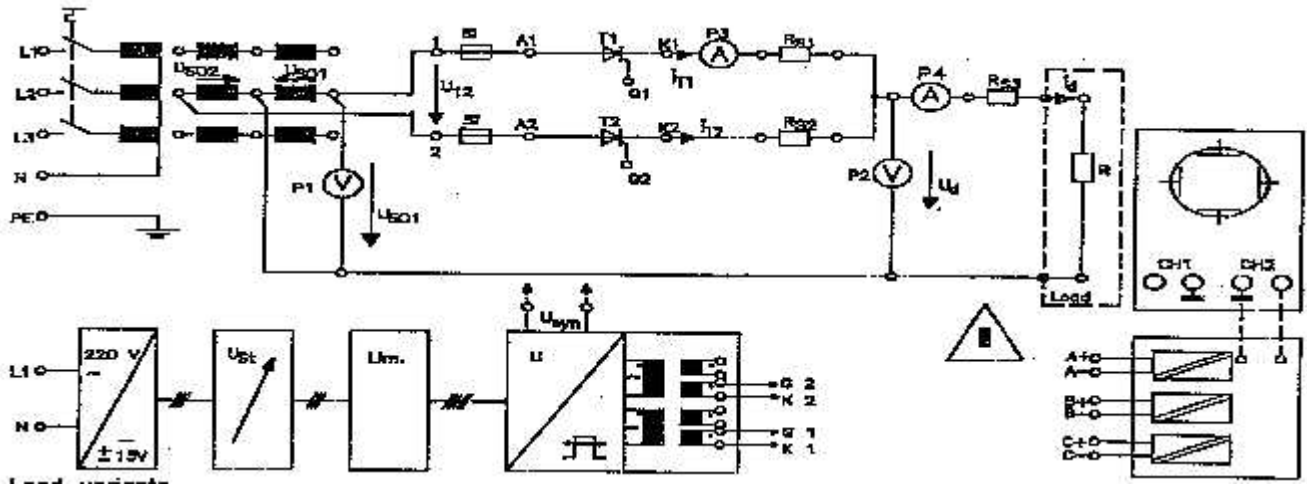

Figure 2 Two pulse midpoint controlled rectifier
- Connect the power circuit as shown in Figure 2, while using the supply voltage one at a time: 45V, 90 V and a load resistance of 33 Ω, (three 100 Ω resistance connected in parallel)
- Connect to the power circuit shown in Figure 2, a load made up of a resistance of 33Ω , (three 100Ω resistance connected in parallel) in series with an inductance of 50 mH .